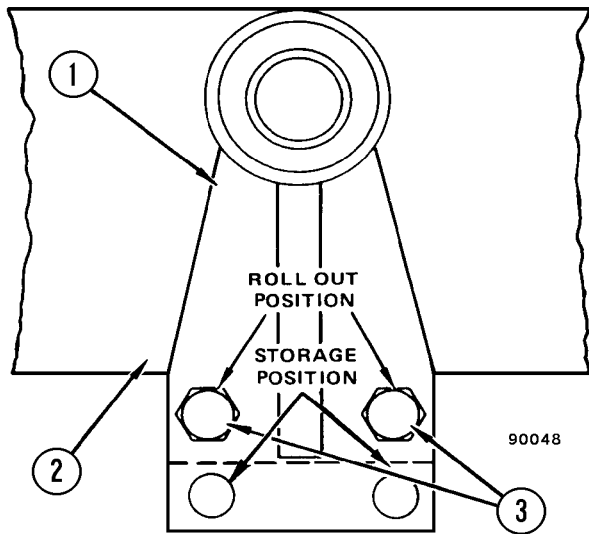

FIGURE 2-5. SUBFRAME ROLLERS
3. Check the subframe rollers making sure they roll freely and are in the "roll-out" position. (Figure 2-5).